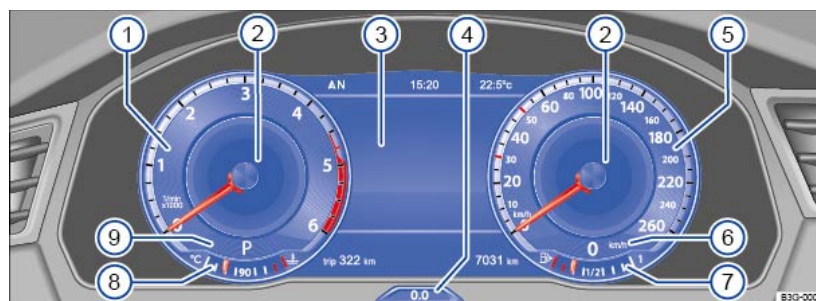

Fig. 15 Dash panel: Active Info Display.
Descriptions of the instruments ⇒ Fig. 15 :
To select a specific information profile, go to the **Views** menu option in the display of the instrument cluster $\Rightarrow$ *Instrument cluster menus*. The Active Info Display shows additional information in the centre of the dials $\Rightarrow$ *Fig. 15* ② depending on the information profile you have selected. The following information profiles are available: